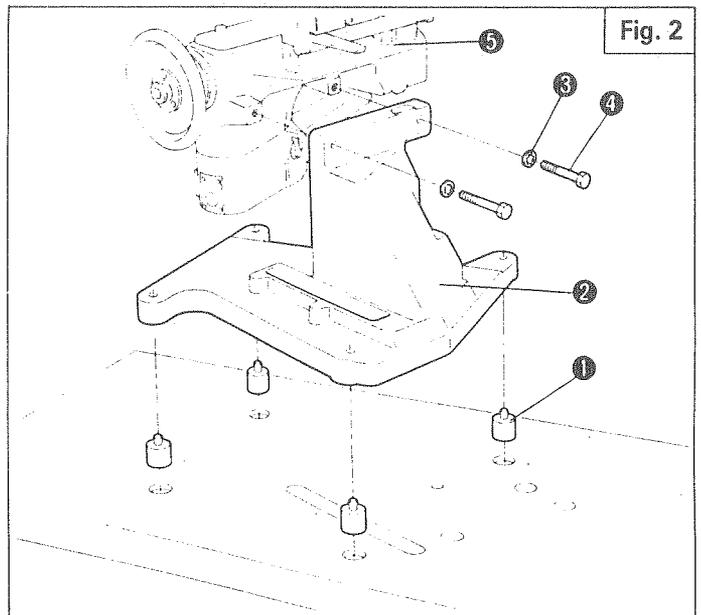

Fig. 2
2. Refer to Fig. 2 and install the machine ① - ⑤ in sequence.